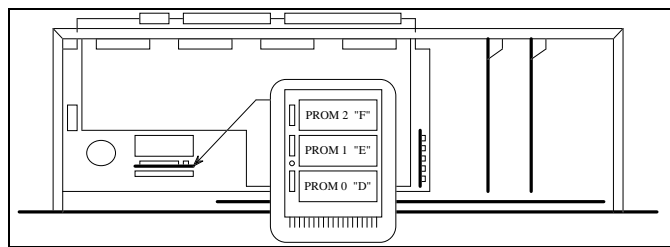

Figure 26 - Location of PMU Software
4. Remove the board with the three PROMs labeled “F”, “E”, and “D” as shown in Figure 26.